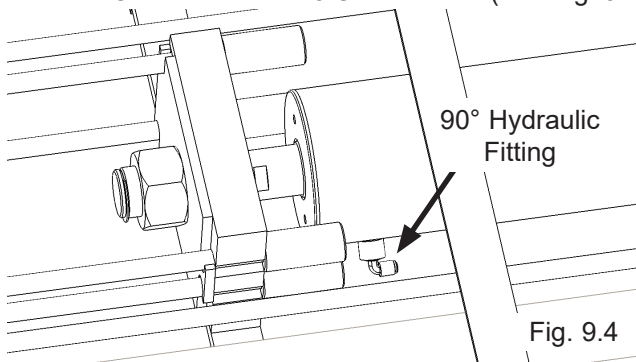

Fig. 9.4
3. Install the 90° Hydraulic Fittings in the port at the ram end of the cylinder. On the pipe thread side of the fitting it is recommended to use Teflon tape or pipe sealer. **DO NOT USE TEFLON TAPE** on the JIC flared end. (See Fig. 9.4 )